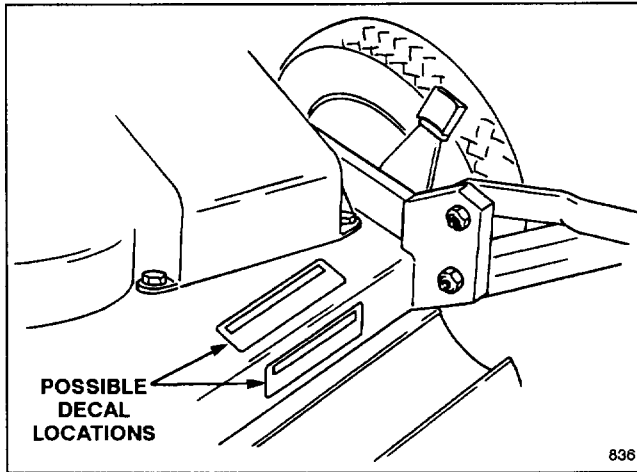

Figure 9
2. Install new decal Part No. 92-3089 over old Recycler® mower decal Part No. 82-8120 (Fig. 9). **Do not place decal over model/serial number decal.**